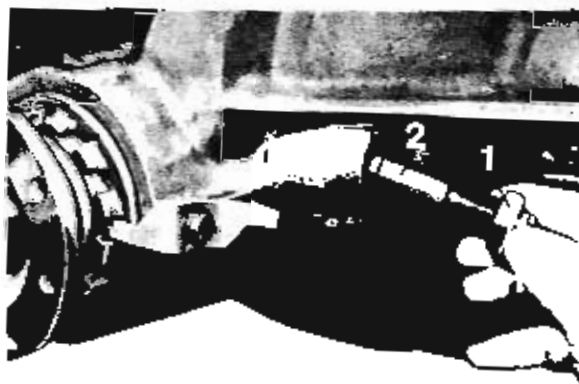

Fig. 1
14 Insert bolts of brake shoe holder from the rear through brake carrier plate and brake shoes, mount outer and inner spring retainer with compression spring and attach with hex. bolt (Fig. 1).
17 Remove clamp (Fig. 1). Insert thrust bolt into wheel brake cylinder and adjust brake shoes in inward direction.
- 4 Unscrew adjusting screw with slide piece for ring gear support (Fig. 1).